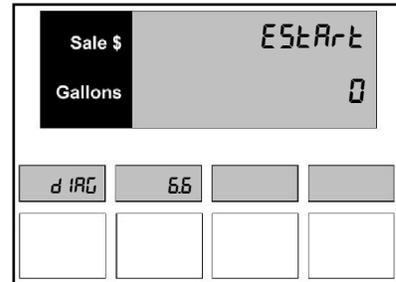

Figure D.6.6 – EEPROM Resets Counter
- The main display shown in *Figure D.6.6* appears. The PPV display shows the dispenser is in Diagnostics Level 6.6.